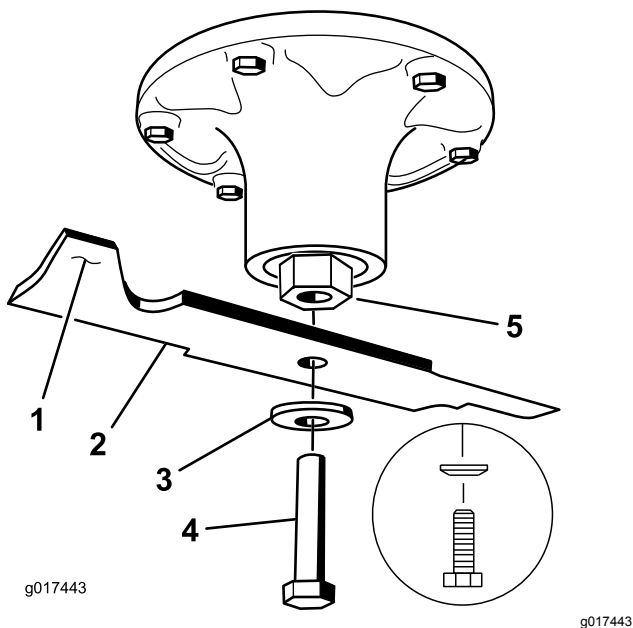

Figure 81
2. Remove the blade bolt, the curved washer, and the blade from the spindle shaft (Figure 81).